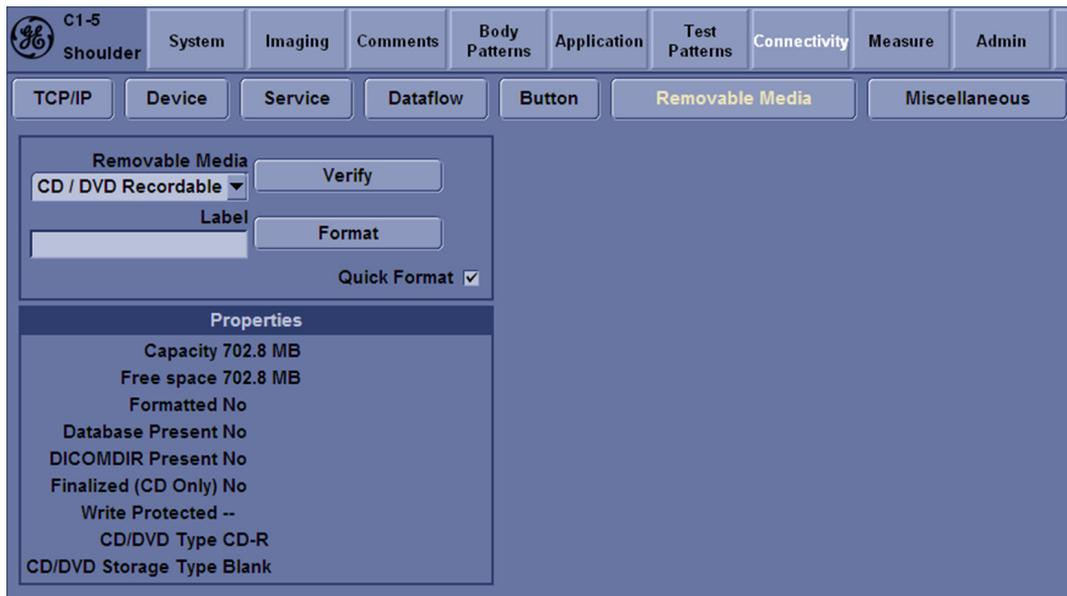

Figure 4-20. Format and verify media
5. If desired, verify that the format was successful by selecting **Verify** in Utility -> Connectivity -> Removable Media. see Figure 4-20 on page 4-46.